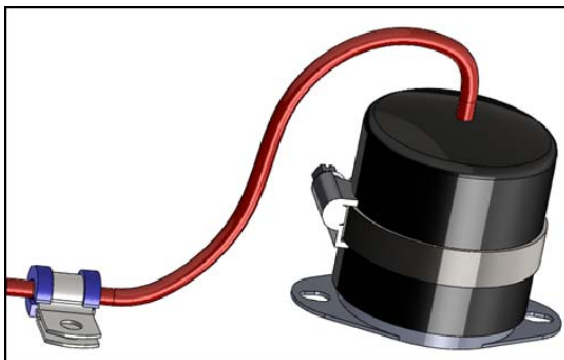

Figure 4. Metal plug, align clamp over seam of metal body and phenolic insulator.
- a) Metal plug: Align the clamp over the seam where the metal meets the phenolic insulator (Figure 4).
5. Secure the cable adjacent to the plug (Figures 4 and 5).